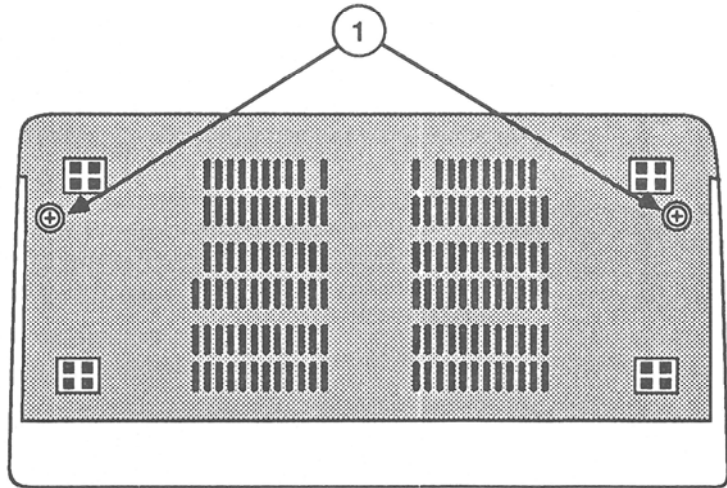

FIGURE 6
5. Replace the two Phillips screws (Figure 6, #1) located on the bottom of the chassis frame.